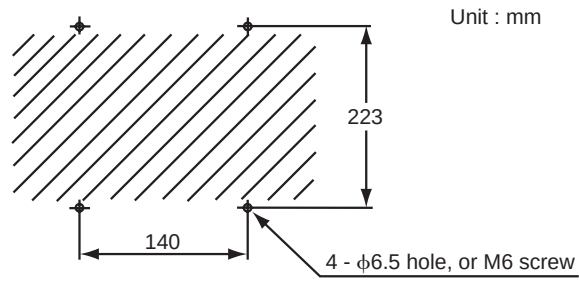

Figure 3.11 Mounting holes
- (1) Make a hole in the wall as illustrated in Figure 3.11.